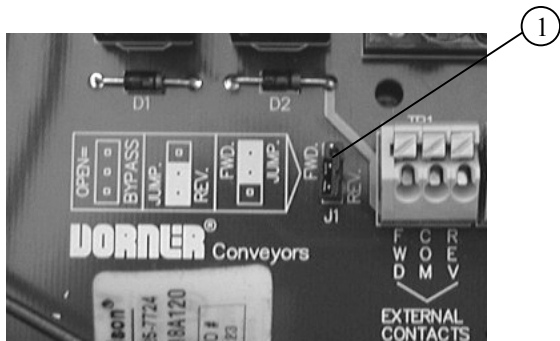

Figure 13
For forward belt movement, install the jumper (Figure 13, item 1) between the FWD pin and center pin, the top two pins. For reverse belt movement, install the jumper between the REV pin and the center pin, the bottom two pins. (This jumper is removed when direction is controlled from the remote machine interface terminals.)